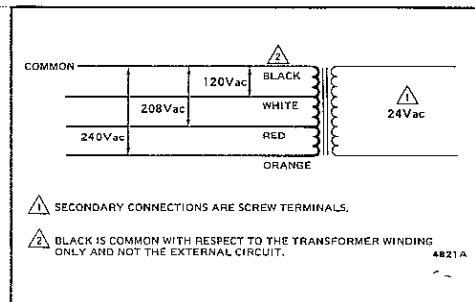

Fig. 7—Transformer schematic.
1. Connect primary leadwires to line voltage power supply. See Fig. 7.